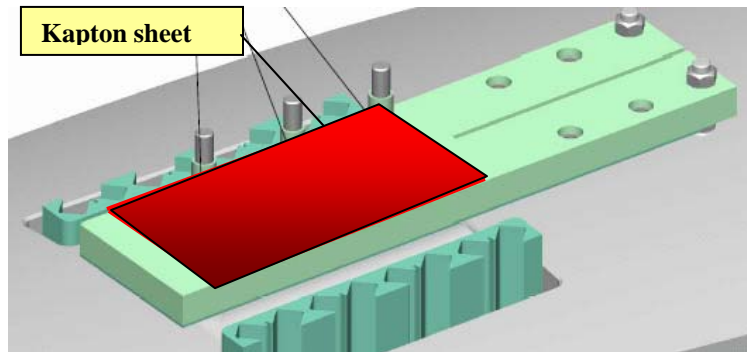

Figure 20-Install Studs, Insulating Sleeves and Kapton sheets
- Install the (3) studs and insulating sleeves into the G-11CR base plate using Loctite 2440 on the threads per manufacturer's instructions. Figure 20-Install Studs, Insulating Sleeves and Kapton sheets
- Begin by positioning Kapton sheet [0.002 in. minimum thickness] onto the G-11 base-plate in the areas where the jumpers interface with the plate. The Kapton sheet shall extend over the mounting hardware that secures the G-11 plate to the winding form. This will improve the electrical tracking distance. [See Figure 20-Install Studs, Insulating Sleeves and Kapton sheets]